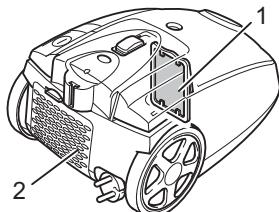

Fig. 22
- A **protective motor filter** (Fig. 22/1) prevents larger particles from destroying the motor if the dust filter bag is defective.
- A **hygienic exhaust filter** (Fig. 22/2) filters the finest particles from the blown-out air.